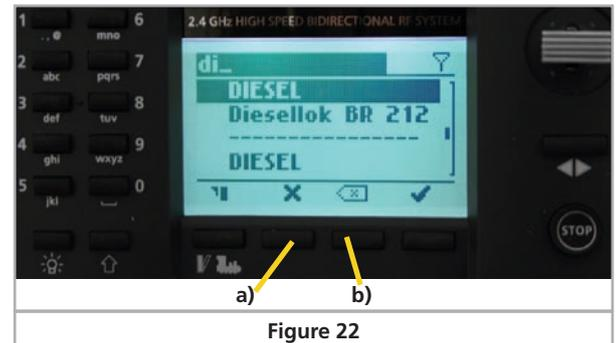

Figure 22
- i) Number block (Fig. 22): Here you can switch the functions 1-10 resp. 11-20 (when “Shift” mode is active). Subject to the settings of the function buttons on the ECoS they are either programmed to act as momentary action buttons (function is only active as long as the button is pressed) or as continuous switches (function changes its status every time the button is pressed).
- j) Lighting button (Fig. 22): Switches the function 0 (headlights) of the loco. This button is not influenced by the “Shift” mode.
- o) Changing direction of travel (Fig. 22): By pressing the change-of-direction-button you will change the direction of travel. In the configuration menu you can set if the speed should go to 0 (with the programmed deceleration) before changing direction.